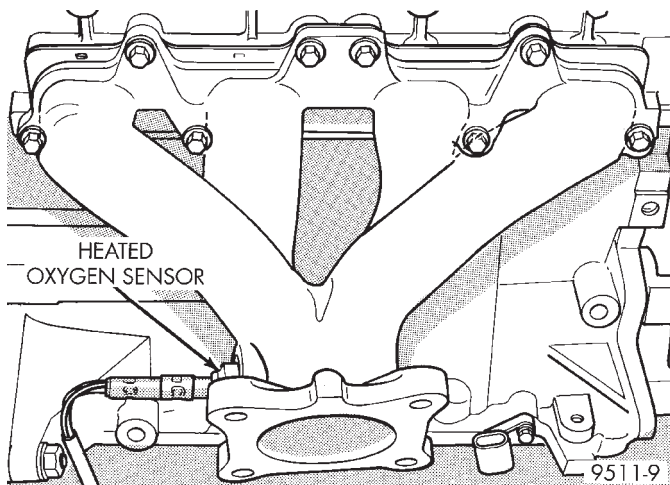

Fig. 18 Exhaust Manifold—2.4L Engine
(3) Remove 8 exhaust manifold retaining fasteners and remove exhaust manifold (Fig. 18).